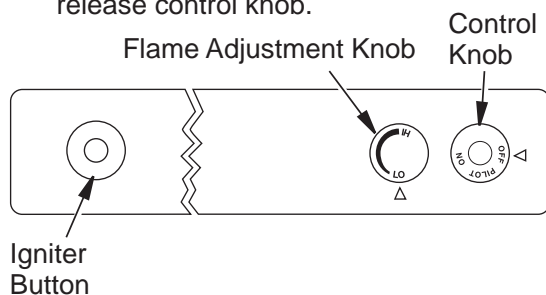

Figure 39 - Control Knob and Igniter Button Location (Shown as Supplied, No Control Options)
4. Press in and turn control knob clockwise  to the OFF position (see **Figure 39**).
5. Wait five (5) minutes to clear out any gas. Then smell for gas, including near the floor. If you smell gas, STOP! Follow "B" in the safety information, **Page 22**. If you don't smell gas, go to the next step.
6. Press in and turn control knob counterclockwise  to the PILOT position. Press in control knob for five (5) seconds (see **Figure 39**).